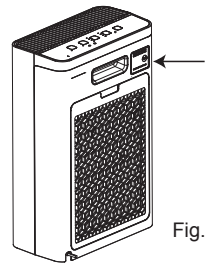

Fig.10
2. Press on the dust sensor cover to remove the cover. (see fig. 10)